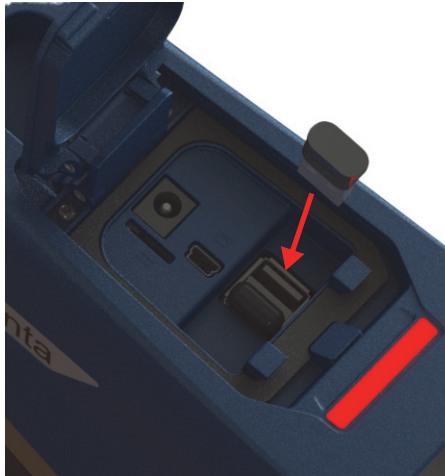

Figure 3-7 Inserting Wi-Fi® adaptor
1. Line the adaptor connectors up with the Wi-Fi® port connectors (see Figure 3-7 on page 63).